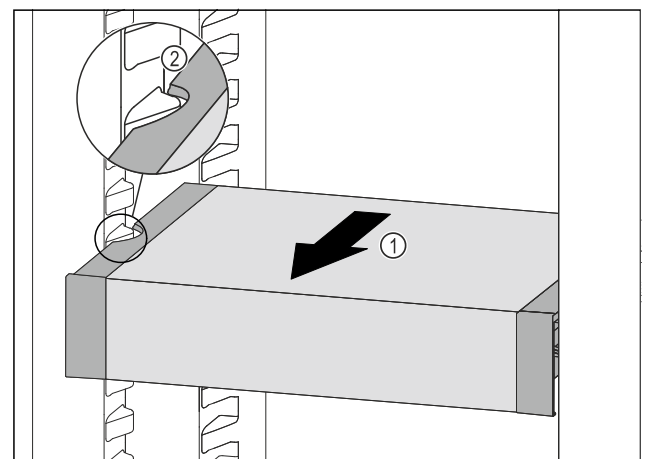

Fig. 134
- ▶ Pull VarioSafe forwards Fig. 134 (1) until the recesses in the side of the VarioSafe are at the level of the support rib in the fridge section. Fig. 134 (2)